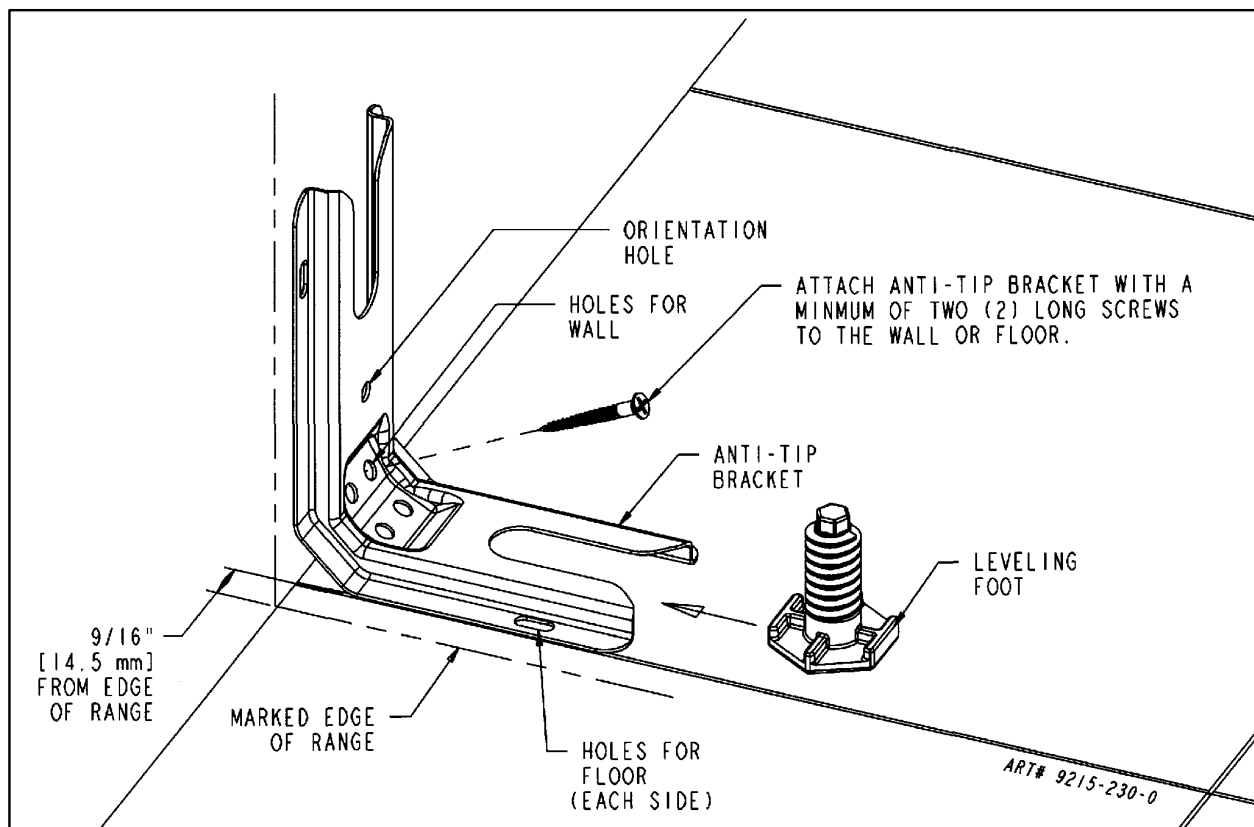
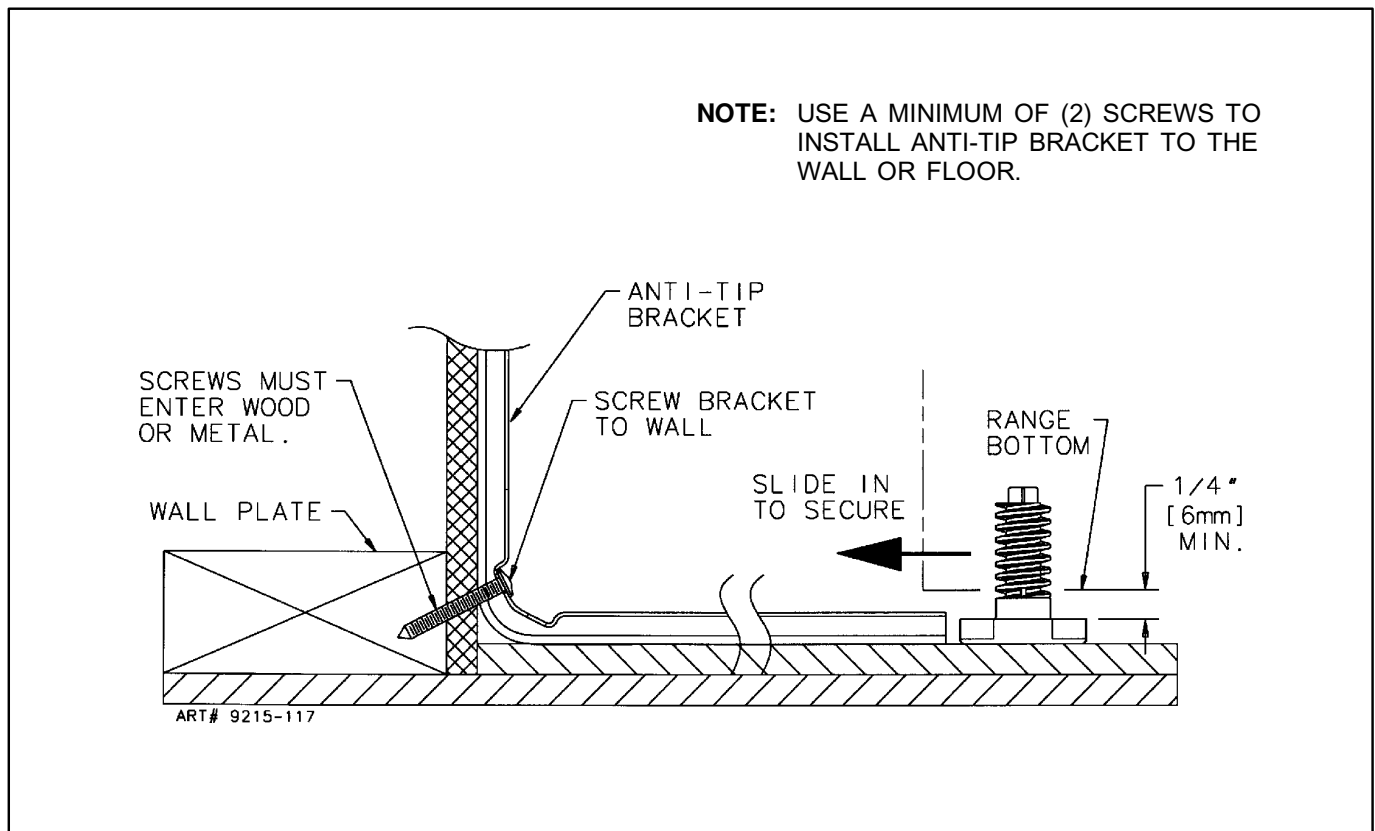

FIGURE 3
FIGURE 4
STEP 1 - Locating The Bracket (See Figure 3)
- Place the BRACKET 9/16" (14.5 mm) from the marked "EDGE" toward center of opening and against the back wall, as shown in figure 3, with orientation hole against wall.
- Use the bracket as a template and mark the required holes, as shown in figure 3 for the type of construction you will be using.
- Floor: Locate the center of the two holes identified in figure 3 as "HOLES FOR FLOOR". Drill a 1/8" (3 mm) pilot hole in the center of each hole (a nail or awl may be used if a drill is not available). Secure the ANTI-TIP bracket to the floor with the two screws provided. Proceed to Step 3.
- Wall: Locate the center of the two holes identified in figure 3 as "HOLES FOR WALL". Drill an angled 1/8" (3 mm) pilot hole in the center of each hole as shown in figure 4. (A nail or awl may be used if a drill is not available). Secure the ANTI-TIP bracket to the wall with the two screws provided as shown in figure 4. Proceed to STEP 3.
- Suitable screws for concrete construction can be obtained at the hardware store. Drill the required size hole for the hardware obtained into the concrete at the center of the holes identified in figure 3 as "HOLES FOR FLOOR". Secure the ANTI-TIP bracket to the floor. Proceed to STEP 3.
Note: A minimum clearance of 1/4" (6mm) is required between the range and the leveling foot that will engage the anti-tip bracket, (see figure 4).